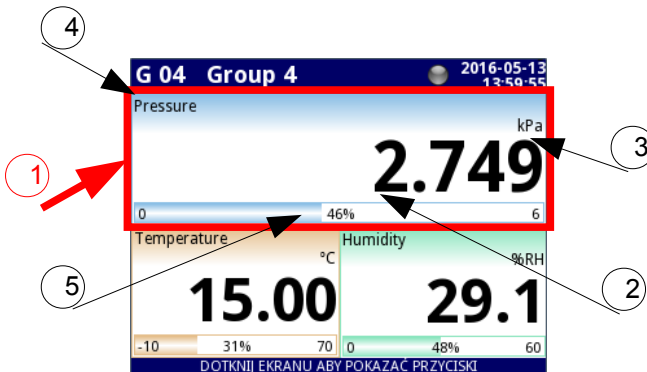

Fig. 6.8. View of the **Data panel**
In all data panels (a sample of a data panel is shown inside the frame marked **(1)** in **Fig. 6.8**) the following information is available:
- value of the logical channel (denoted by **(2)** in **Fig. 6.8**),